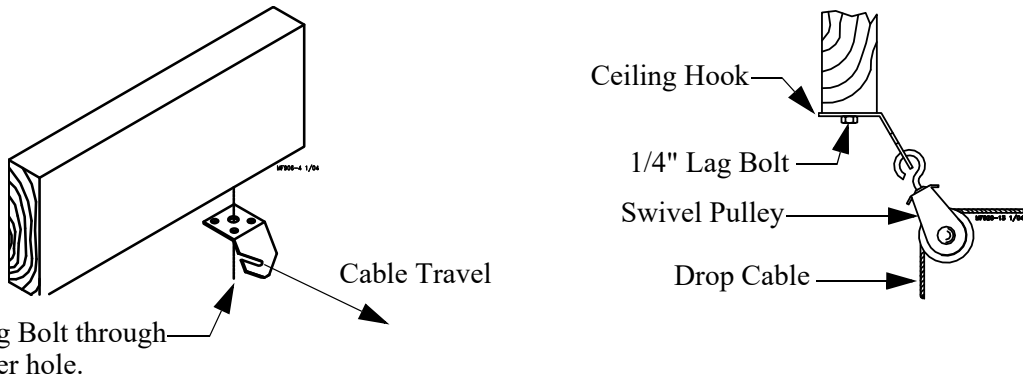

Figure 10. Wood Truss Ceiling Bracket and Pulley Installation
2. After securing the ceiling hook to the truss, slide the swivel pulley into the slot as shown in **Figure 10**.